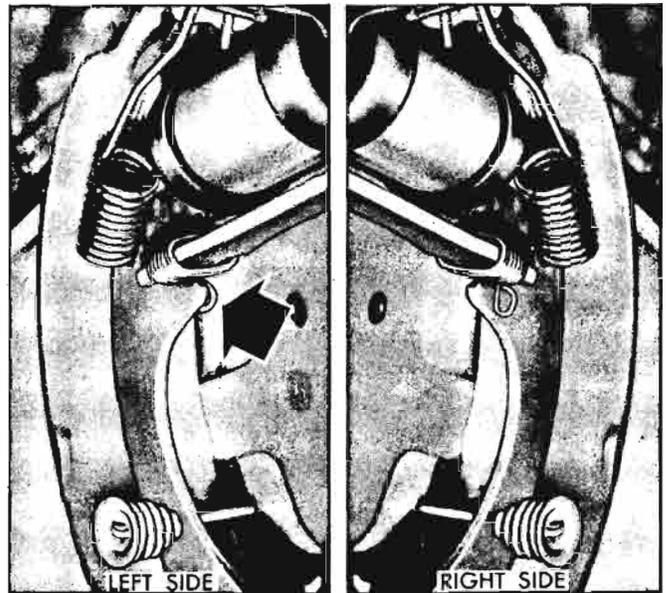

Fig. 5-18—Parking Brake Strut Anti-Rattle Spring
7. On rear brakes, connect parking brake lever to secondary shoe and install strut between lever and primary shoe as installation is made. The small extended loop on the strut anti-rattle spring is installed as illustrated in Figure 5-18.